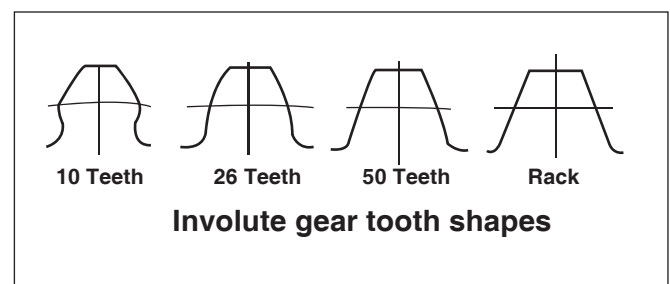

Figure 2—Curvature of the involute gear tooth shapes.
- The pinion is the gear normally modified, and it has the highest degree of tooth curvature. The higher the tooth curvature—lower number of teeth—the greater the potential for bias error (Fig. 2);